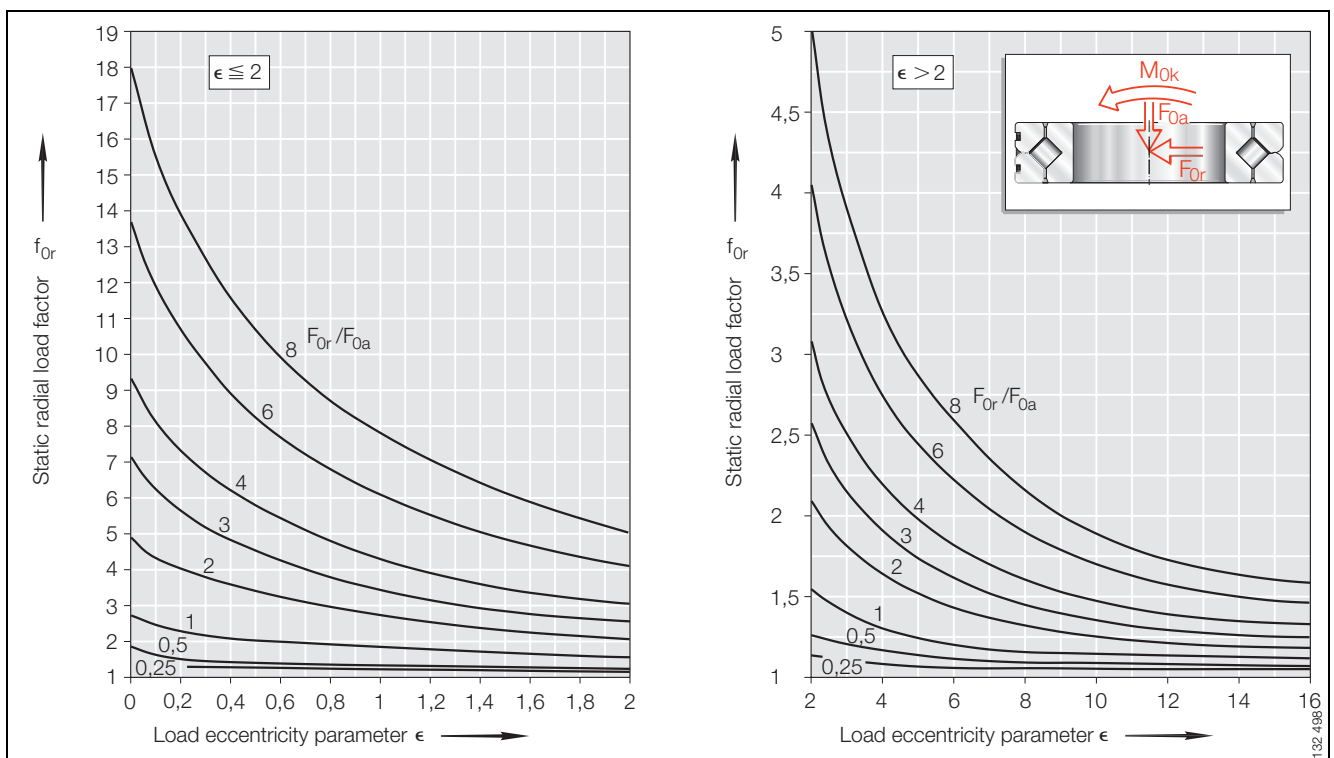

Figure 1 · Main load directions and static radial load factor  $f_{Or}$  for crossed roller bearings
- determine the ratio  $F_{0r}/F_{0a}$  in Figure 1
- from the ratio  $F_{0r}/F_{0a}$  and  $\epsilon$ , determine the static radial load factor  $f_{0r}$  from Figure 1.
Static radial load factor (see Figure 1)